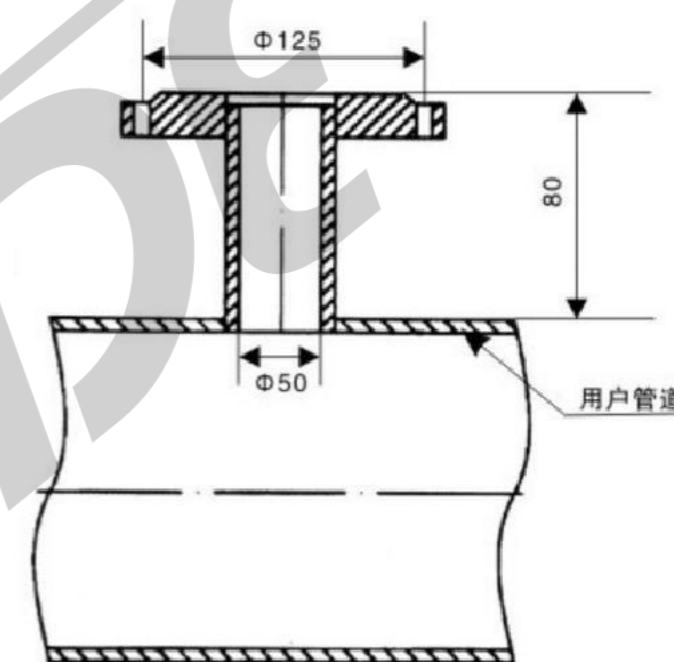

Fig. 3 Mounting Base
Before installation, a 60-diameter mm hole should be opened on the tested pipeline. The size is consistent with the outer diameter of the connecting pipe of the mounting base. The welding of the installation base and the tested pipeline is shown in Figure 3.
2.5.2.4 Install the DN50 ball valve on the mounting base as shown in Fig. 3. Note that the long cavity of the ball valve is upward. Check whether the ball valve can be fully opened and fully closed. Tighten the gland nut and set screw, and at the same time, pay attention to the direction of the sensor direction mark should be consistent with the fluid flow direction.